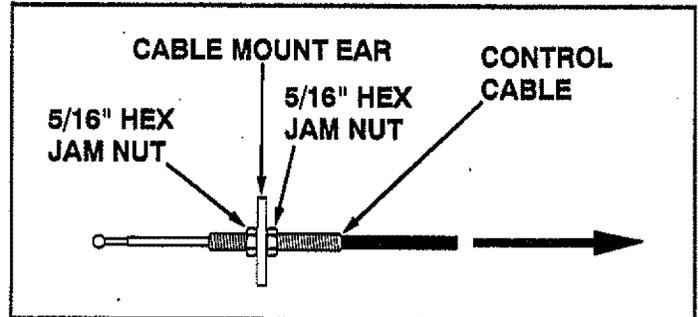

FIGURE 34
- If the blade will not unlock and pivot, the angle lock bars are not disengaging from slots in pivot plate. To correct this condition, adjust the 5/16" hex jam nuts to draw the end of the control cable back towards the welded cable mount ear on the handle tube. The less the end of the cable extends through the ear, the more the angle lock bars can retract to disengage from the slots in the pivot plate. See figure 34.